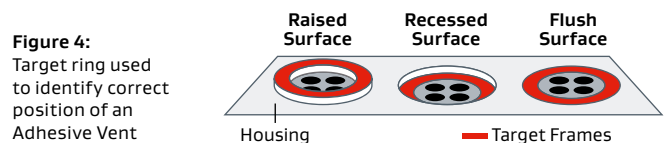

Figure 3: Recommended holes*
- Multiple 1 mm holes may be used for larger vent diameters (Figure 3)